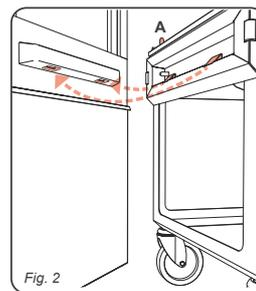

Fig. 2
Fig. 2 Unlock wheels, place the trolley in front of machine to connect. The lock (A) is automatically pulled down, when the trolley is connected correctly to the machine.